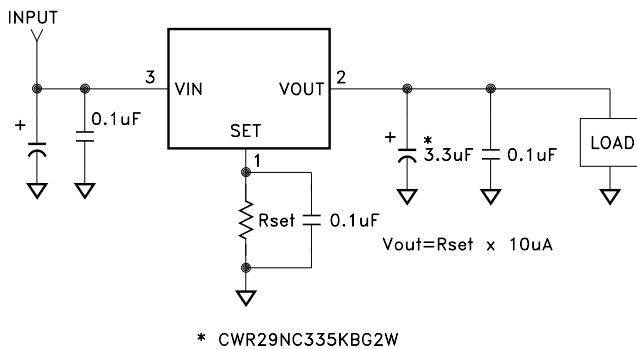

FIGURE 1
- ① Output is decoupled to ground using a 3.3 tantalum low ESR capacitor in parallel with a 0.1µF ceramic capacitor unless otherwise specified. (See Figure 1).
- ② Guaranteed by design but not tested. Typical parameters are representative of actual device performance but are for reference only.
- ③ Industrial grade devices shall be tested to subgroup 1 unless otherwise specified.
- ④ Class V devices shall be 100% tested to subgroups 1,2 and 3.
- ⑤ Subgroup 1 TA = TC = + 25 °C